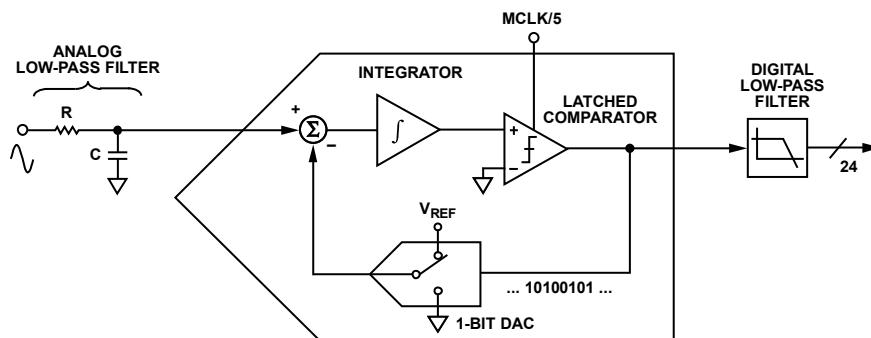
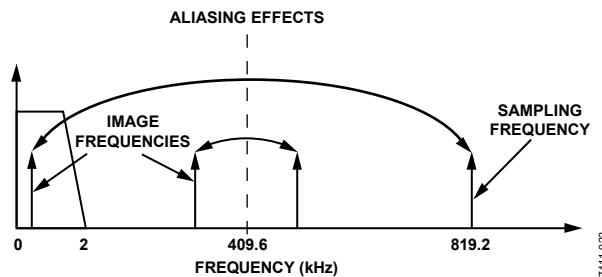

Figure 22. First-Order $\Sigma\Delta$ ADC
Figure 23. ADC and Signal Processing in Current Channel Outline Dimensions
For simplicity, the block diagram in Figure 22 shows a first-order $\Sigma\Delta$ ADC. The converter is made up of the $\Sigma\Delta$ modulator and the digital low-pass filter.
Figure 22 also shows an analog low-pass filter (RC) on the input to the modulator. This filter is present to prevent aliasing, an artifact of all sampled systems. Aliasing means that frequency components in the input signal to the ADC, which are higher than half the sampling rate of the ADC, appear in the sampled signal at a frequency below half the sampling rate. Figure 23 illustrates the effect. Frequency components (the black arrows) above half the sampling frequency (also known as the Nyquist frequency, that is, 409.6 kHz) are imaged or folded back down below 409.6 kHz. This happens with all ADCs regardless of the architecture. In Figure 23, only frequencies near the sampling frequency (819.2 kHz) move into the band of interest for metering (40 Hz to 2 kHz). This allows the use of a very simple LPF (low-pass filter) to attenuate high frequency (near 819.2 kHz) noise and prevents distortion in the band of interest.
For conventional current sensors, a simple RC filter (single-pole LPF) with a corner frequency of 10 kHz produces an attenuation of approximately 40 dB at 819.2 kHz (see Figure 23). The 20 dB per decade attenuation is usually sufficient to eliminate the effects of aliasing for conventional current sensors. However, for a di/dt sensor such as a Rogowski coil, the sensor has a 20 dB per decade gain. This neutralizes the -20 dB per decade attenuation produced by one simple LPF. Therefore, when using a di/dt sensor, care should be taken to offset the 20 dB per decade gain. One simple approach is to cascade two RC filters to produce the -40 dB per decade attenuation needed.